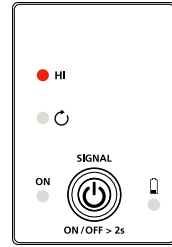

Figure 3.1d: Transmitter indicator showing signal in HIGH mode
3. HIGH signal mode is automatically activated when Transmitter is turned on. Screen will appear as shown in Figure 3.1d.